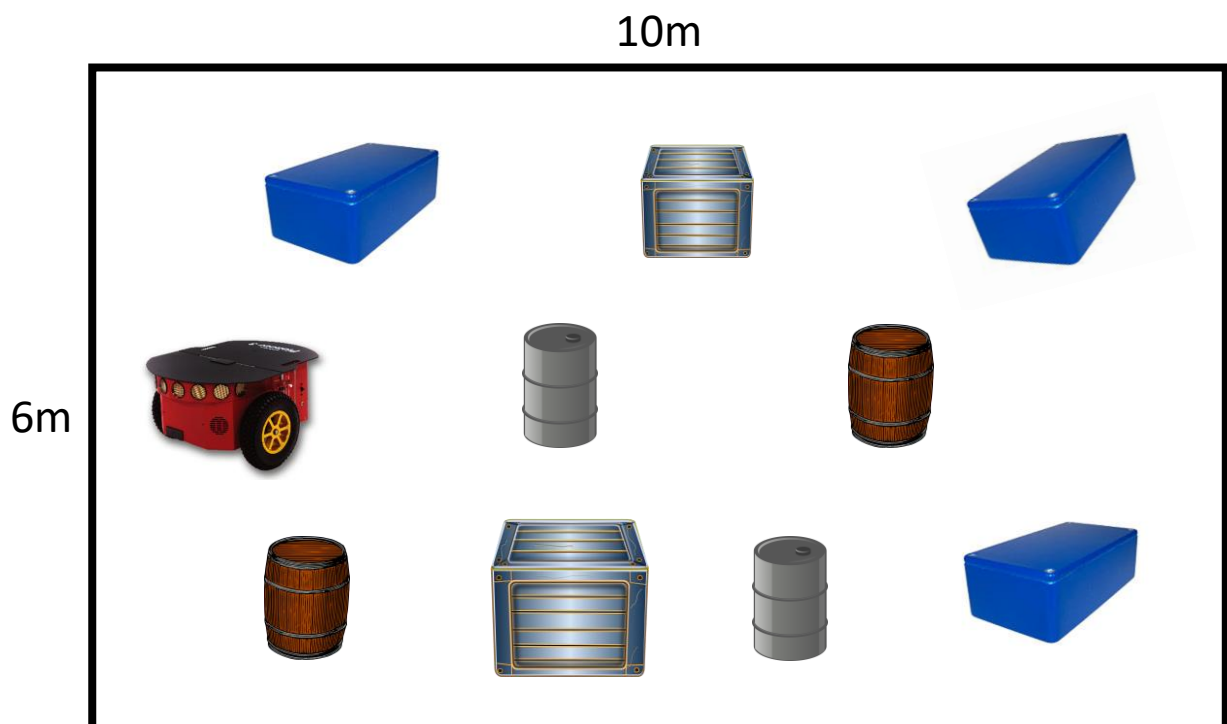

Figure 1 A depiction of the environment
- The warehouse has wall 10m by 6m (see Figure 1).